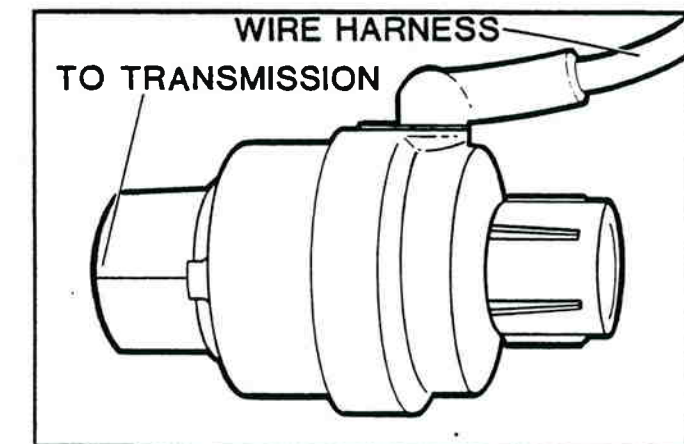

Figure 9-15. Speed Sensor.
**SPEED SENSOR** — provides vehicle speed information to the control module. It is a unitized module which is installed in the transmission speedometer output circuit (figure 9-15).